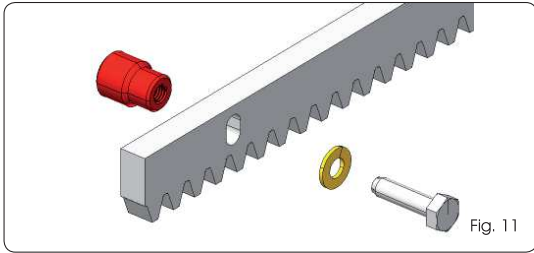

Fig. 11
5.4 INSTALLING THE RACK**5.4.1 STEEL RACK TO WELD (Fig. 11)**